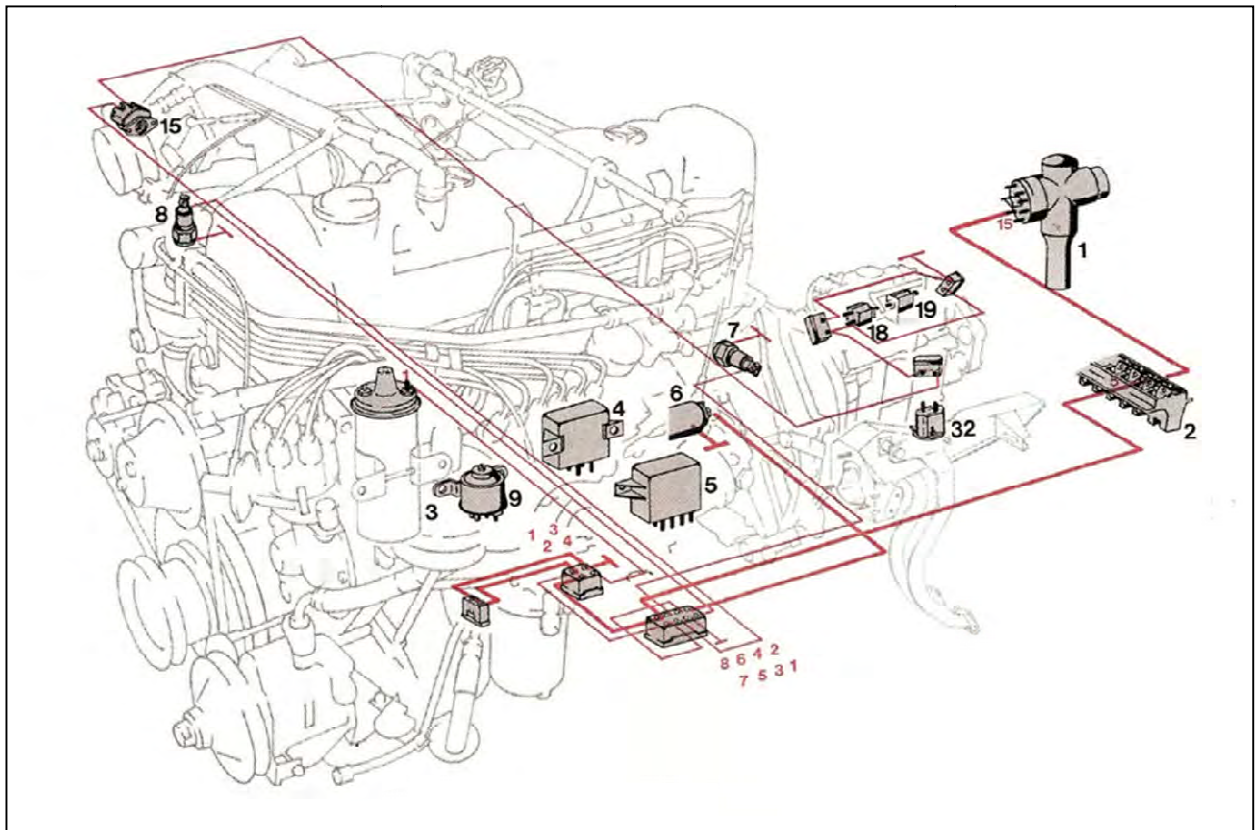

Fig. 2: 280SL with manual transmission
Depending on the engine speed and the cooling water temperature, the ignition point is adjusted towards retarded. A two-way valve (9) is installed in the vacuum line between the vacuum unit on the ignition distributor and the intake manifold (Fig. 2). The two-way valve (9) is controlled by the speed relay (4) and via the relay (5) by the 17 ° C temperature switch in the cylinder head (7) and the 100 ° C temperature switch (8) in the thermostat housing.